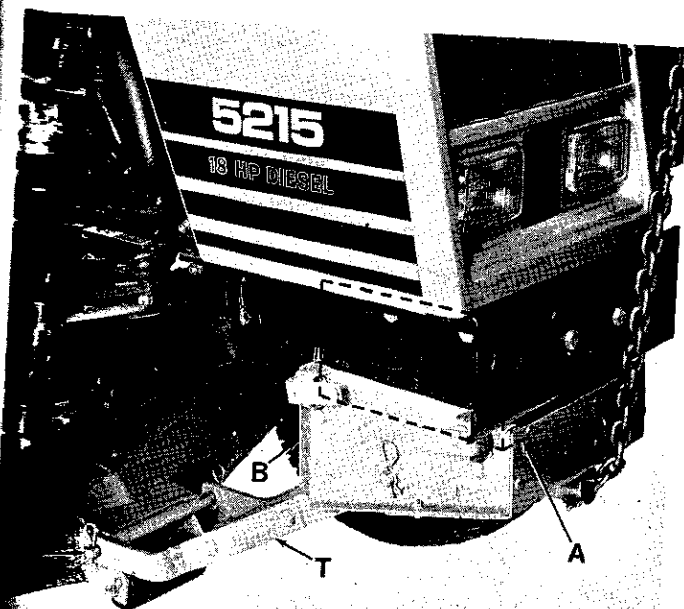

FIG. 11
1. Put front mounting assembly (B) up into front mounting bracket (A). (See Fig. 11) Release four snap pins of front mounting assembly (B) into holes of front mounting bracket (A).
2. Install pivot bracket (T) to tube on roller bracket of mower deck using pivot pin (P) found in pivot bracket (T). (See Fig. 11)